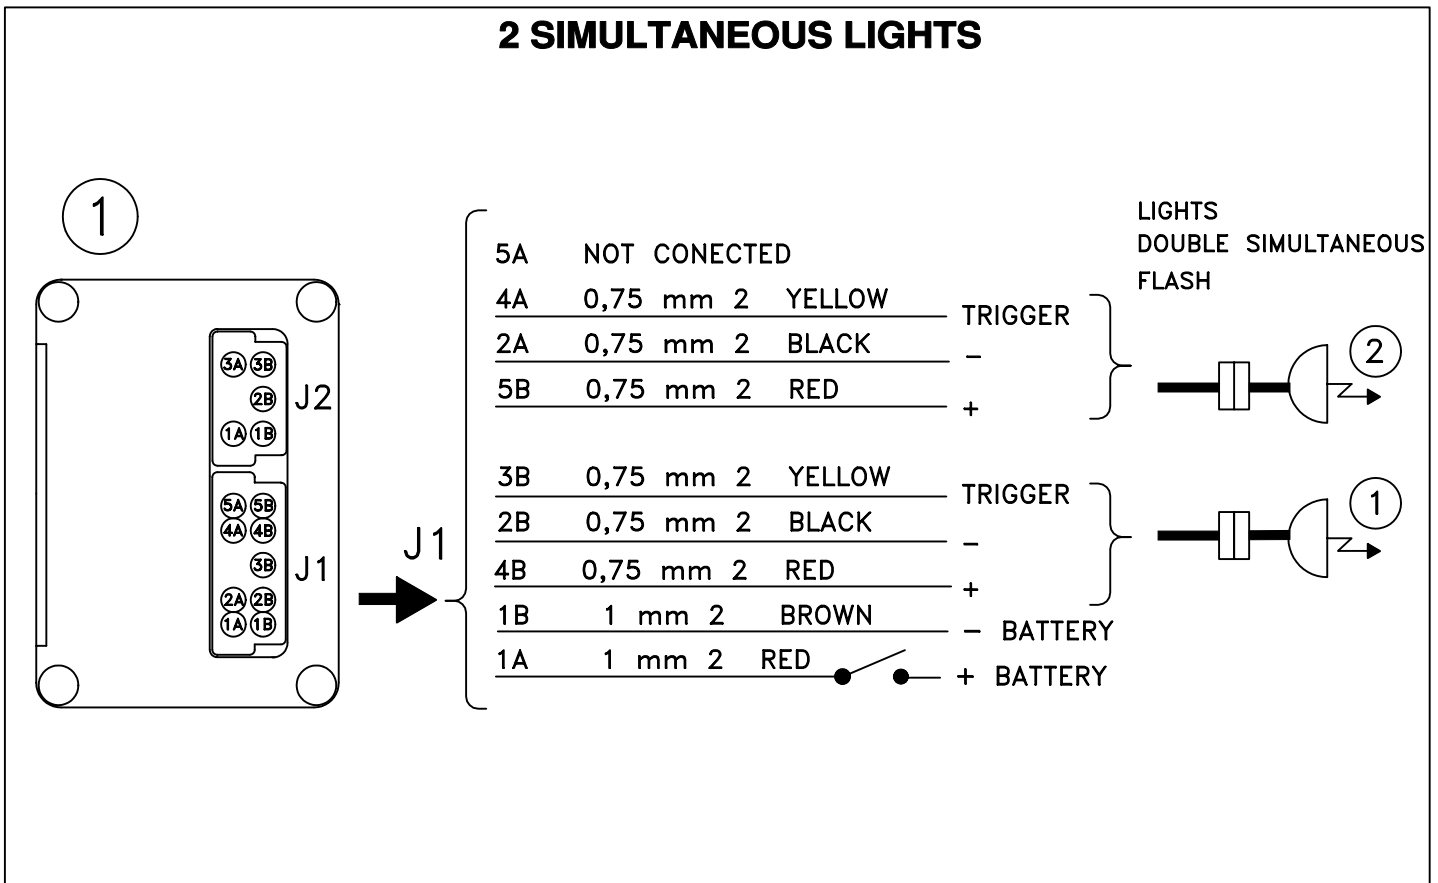

FIGURE 6
2) Wiring diagrams for FA-540/E HL (figure 6).